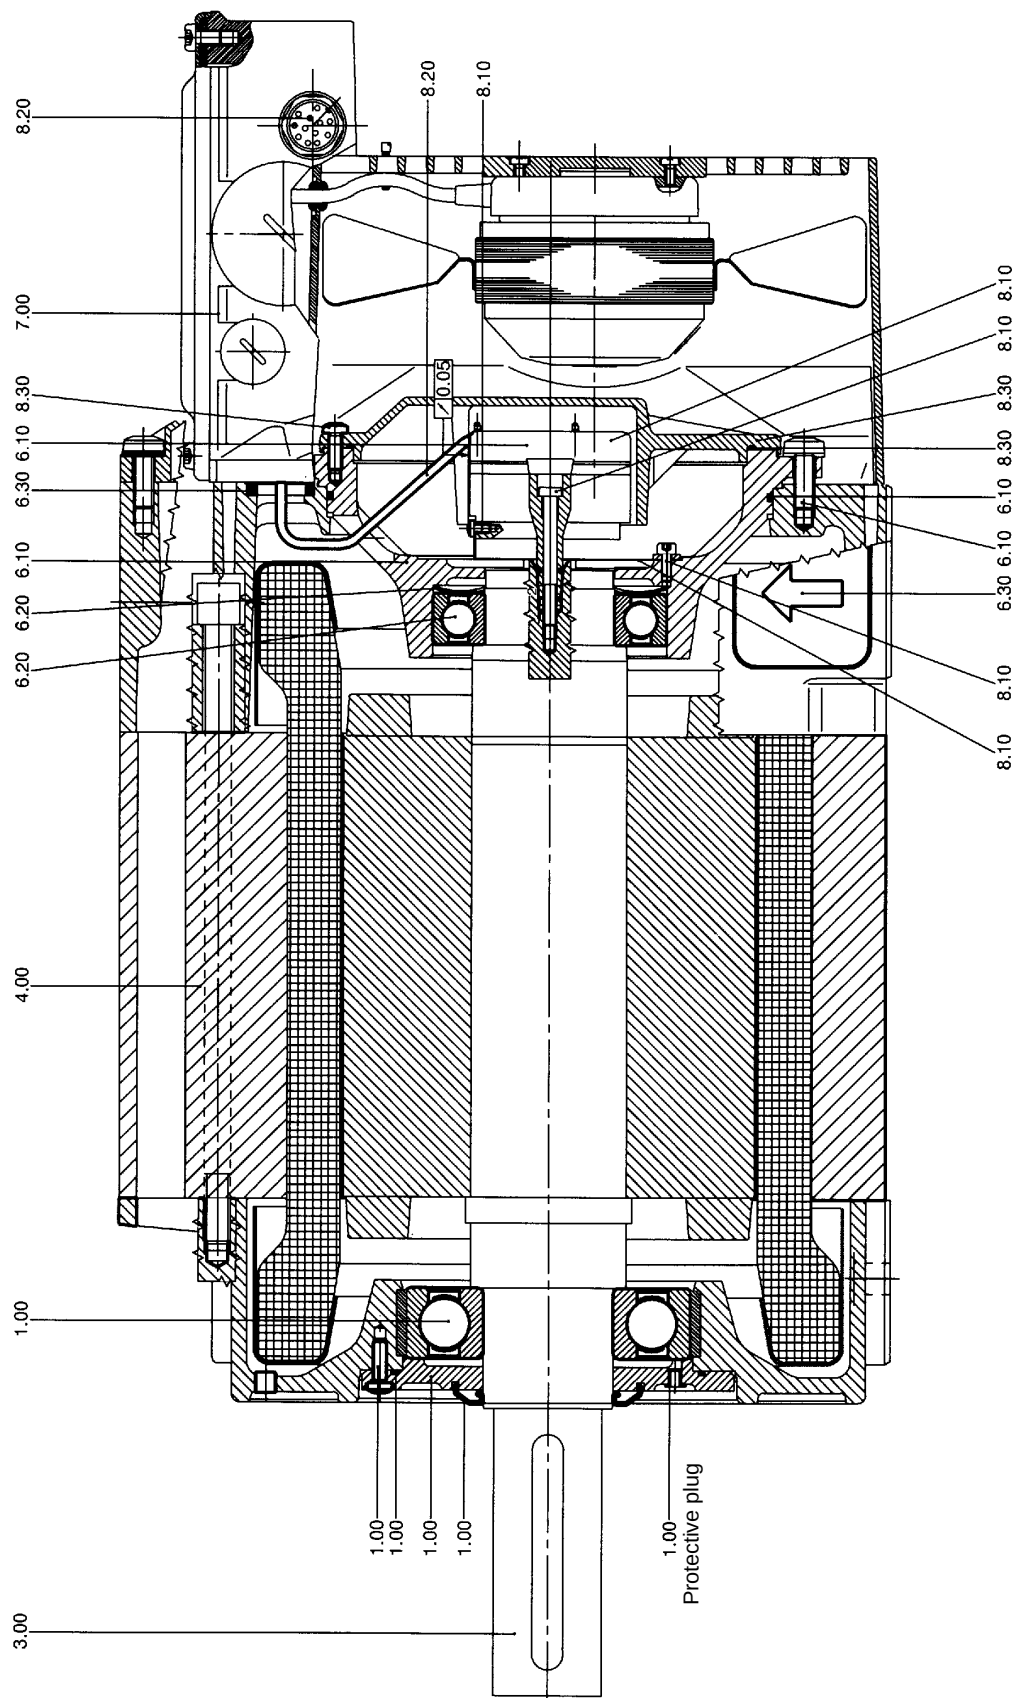

Fig. 9 PH7 IM B3
- Undo the screws (8.10a) for the torque arm and the encoder screw (8.10b) (see Fig. 9); the motor rotor must be prevented from turning at the same time.
- Position the encoder and the assembled torque arm on the taper of the motor rotor and screw in the screw; note the maximum tightening torque (see Fig. 9 and table). The motor rotor must be prevented from turning at the same time.